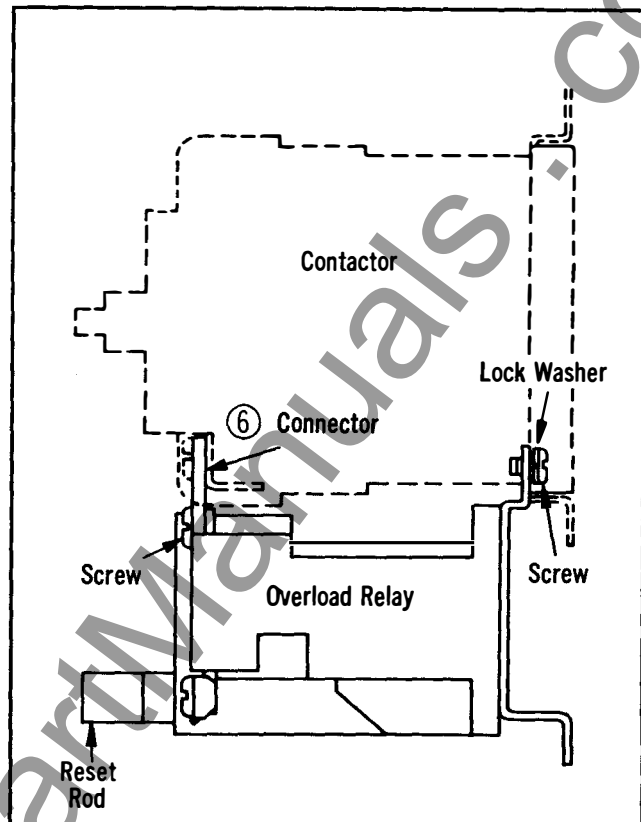

Fig. 3 - Overload Relay Mounted on A/200 Motor Controller
The relay is available either for panel mounting or for mounting on an A/200 Motor Controller. Overload relays for controller mounting have the necessary hardware and connectors included and should be installed as shown in Figure 3 with the connectors (6) having their slotted ends toward the controller.